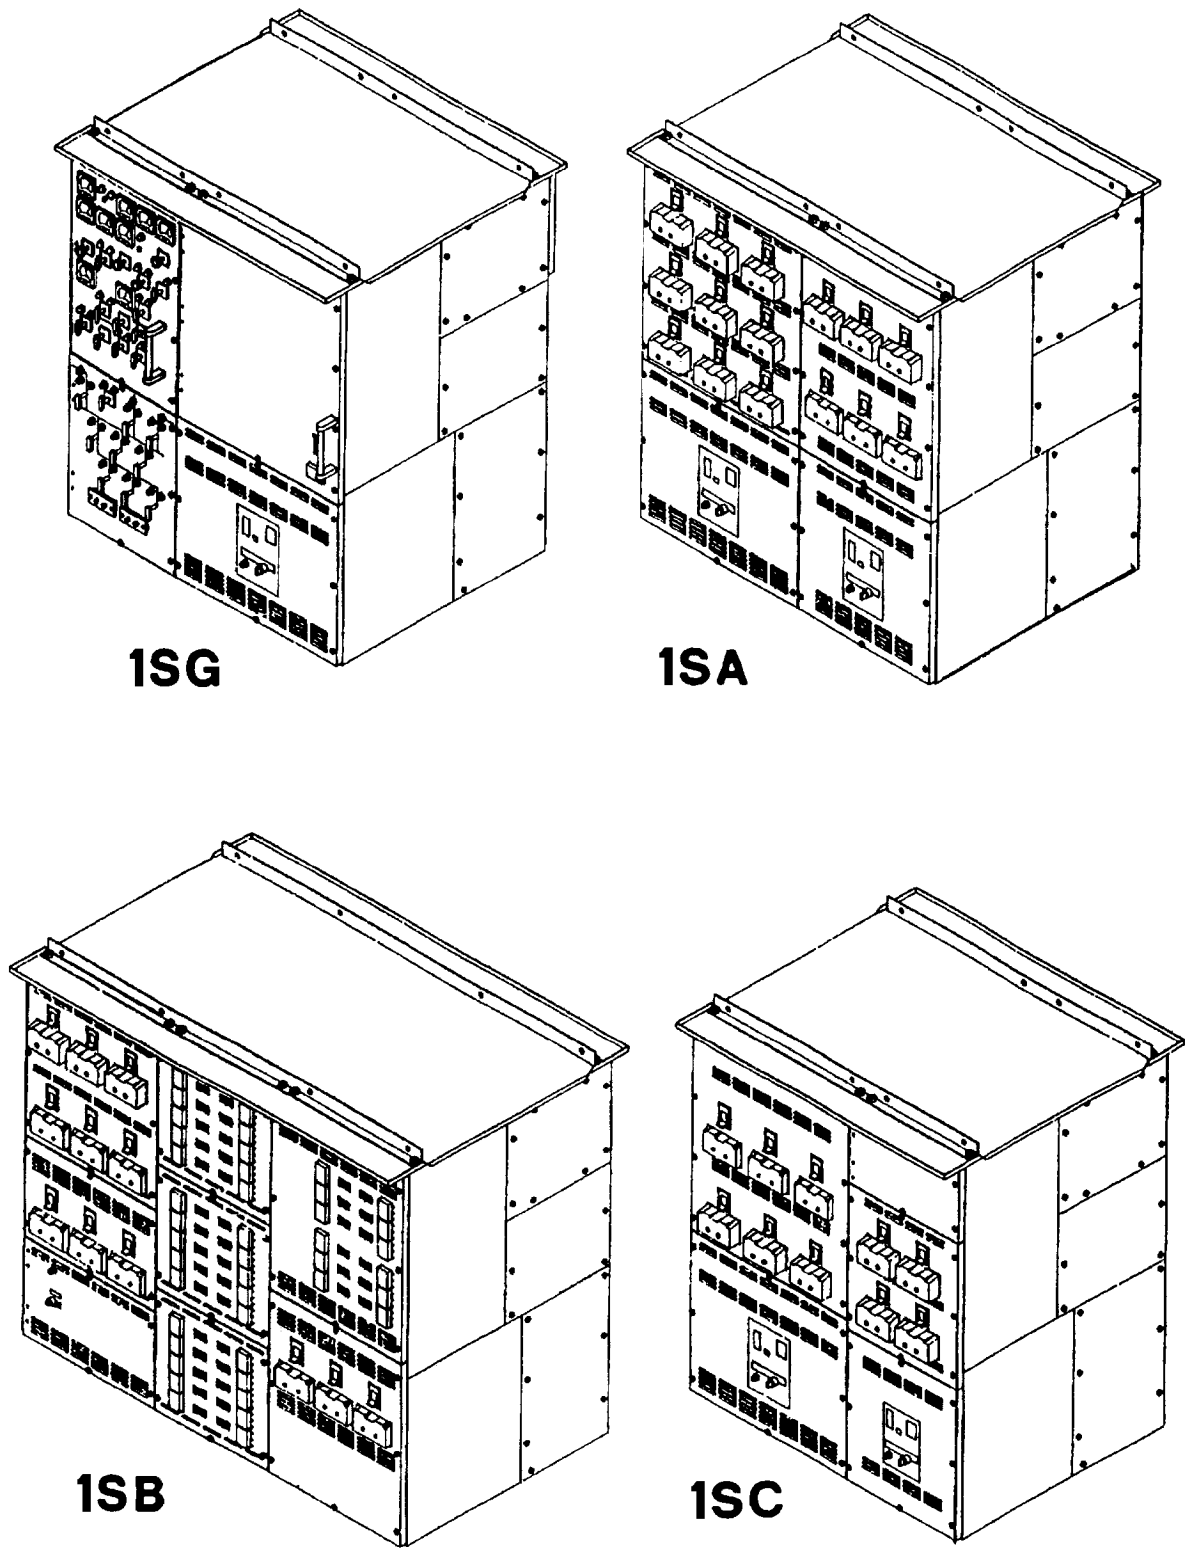

Figure 1-2. Ship's Service Switchboard 1S
1-3.1 SHIP'S SERVICE SWITCHBOARD 1S. Ship's service switchboard 1S consists of switchboards 1SG, 1SA, 1SB, and 1SC (see figure 1-2). The 1SG switchboard contains circuit breakers for the 1SG Generator and the generator sea water cooling pump. The switchboard also contains controls and indicators for the generator, various circuit breakers, synchronizations for switchboard 2S and switchboard 3S and Local/Remote Control. Through the use of disconnect links (located in the rear of the switchboards), switchboards 1SG, 1SA, 1SB, and 1SC can each be isolated as necessary. Casualty power breakers and terminals for the Generator 1SG are located in the rear of switchboard 1S. Switchboard 1SA (refer to table 1-2) contains the 1S/2S bus tie breaker, the Load Center (LC) LC31 breaker, and several distribution breakers to vital/non-vital ship's load breakers. Switchboard 1SB (refer to table 1-2) contains vital and non-vital ship's load breakers. Switchboard 1SC (refer to table 1-2) contains the 1S/3S bus tie breaker and vital/non-vital ship's load breakers.